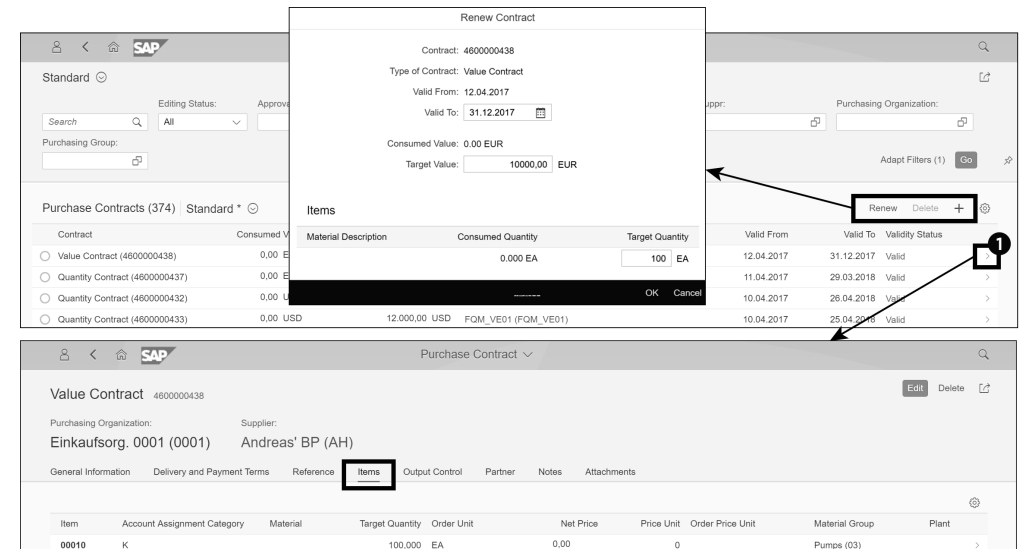

Figure 8.8 Manage Purchase Contract
This app also provides the capability to search for contracts based on a wide range of criteria, including supplier, purchasing organization, purchasing group, rating, creation date, validity status, and so on. As shown in Figure 8.8, it's also possible to navigate to the contract in display mode and edit it from there ①.